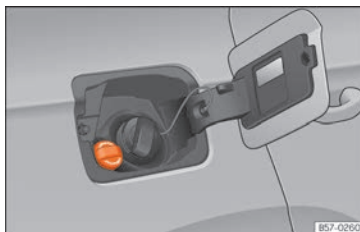

Fig. 268 AdBlue tank cap.
- Open the tank cover » **Fig. 268**.
»» **Fig. 268.**